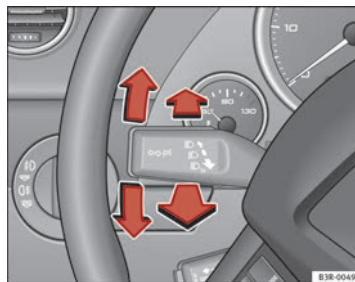

Fig. 92 Turn signal and main beam headlight lever
- Move the lever all the way up to indicate right or all the way down to indicate left  $\Rightarrow$  fig. 92.